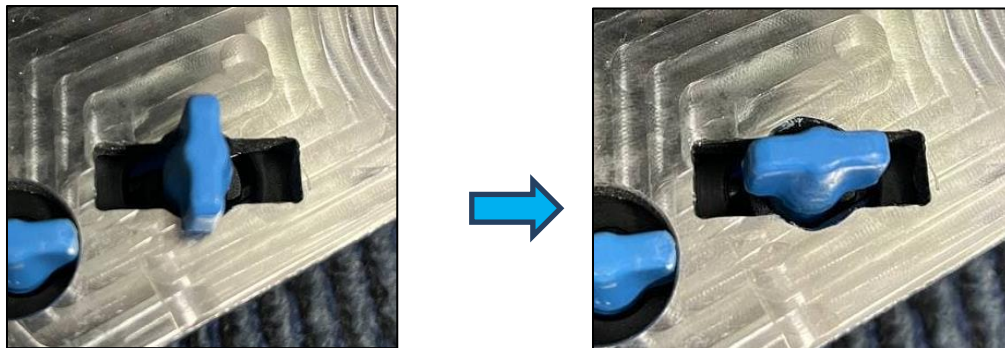

Fig. 2
1. Turn the two fasteners (Fig. 1) until they align with their hole (Fig. 2).